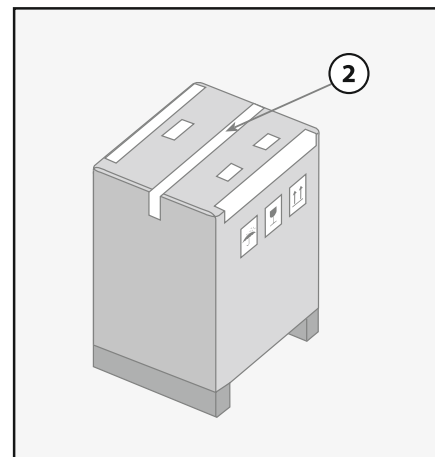

Figure 1.8: Open top carton.
2. Open the top carton by cutting the adhesive tape (see Figure 1.8).